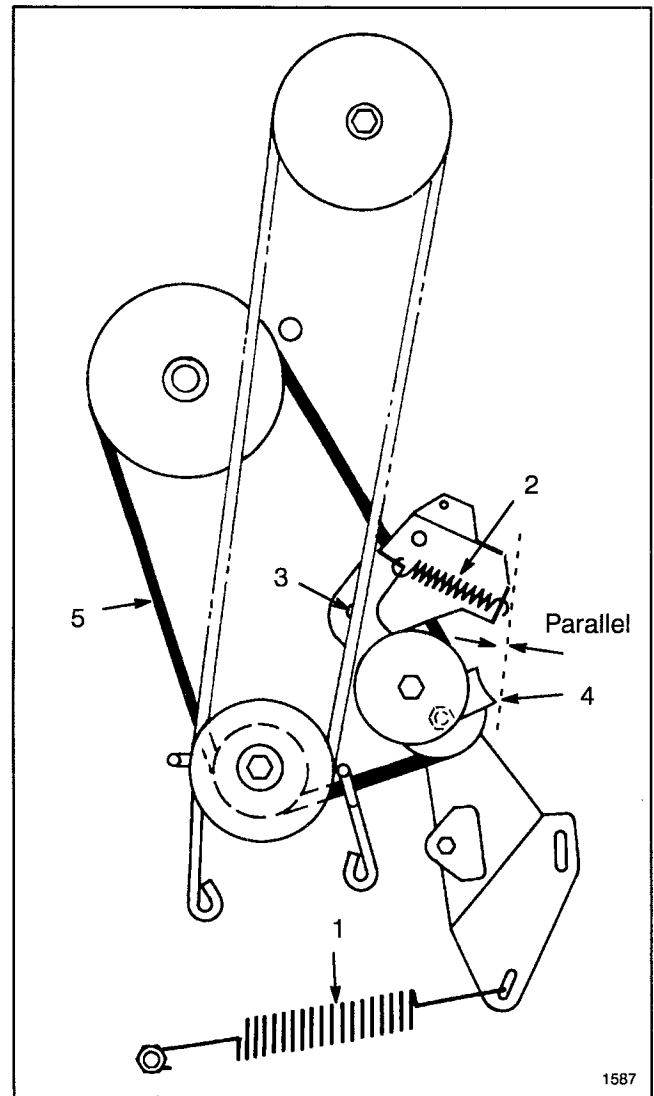

Figure 20
7. Unhook large traction spring from mounting screw (Fig. 20). Use caution when removing spring as it is heavily tensioned.
8. Unhook idler spring from idler bracket (Fig. 20).
9. Remove locknut and washer securing idler bracket to frame and remove bracket (Fig. 20).
10. Loosen the locknut on pulley until belt guide can be removed (Fig. 20). Remove belt from all pulleys.
Note: When reinstalling belt guide to idler pulley, make sure edge of belt guide is parallel to frame as shown in Figure 20.